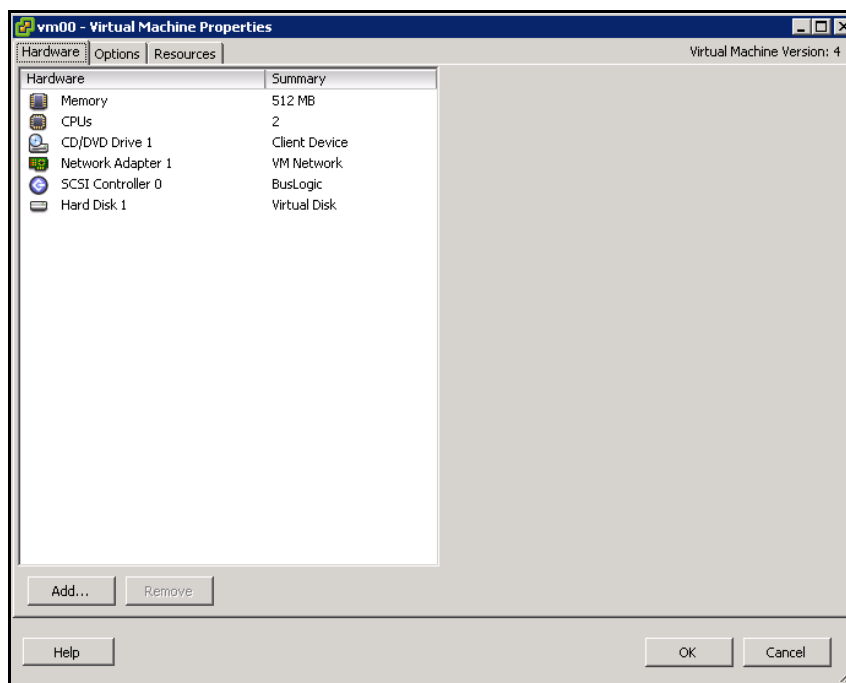

Figure 4-24: Virtual Machine Properties Dialog Box
1. From the VirtualCenter client, right-click a virtual machine and select **Edit Settings**. The Virtual Machine Properties dialog box appears (Figure 4-24).